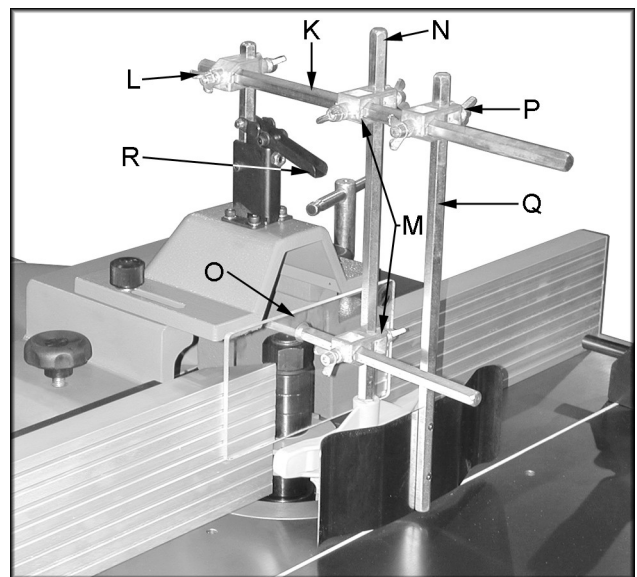

Figure 6
1. Slide hexagonal rod (K, Figure 6) into the clamp and secure in place with wing nut (L, Figure 6).
2. Slide two clamps (M, Figure 6) onto the hold-down (N, Figure 6).
3. Slide the clear shield (O, Figure 6) into the lower clamp and slide the hold-down assembly onto the hexagonal rod (K, Figure 6) through the upper clamp.
4. Slide clamp (P, Figure 6) onto spring guard (Q, Figure 6) and slide assembly onto the hexagonal rod (K, Figure 6).
Note: The guard assembly can be pivoted out of the way by raising the locking lever (R, Figure 6). It is shown in the locked position.